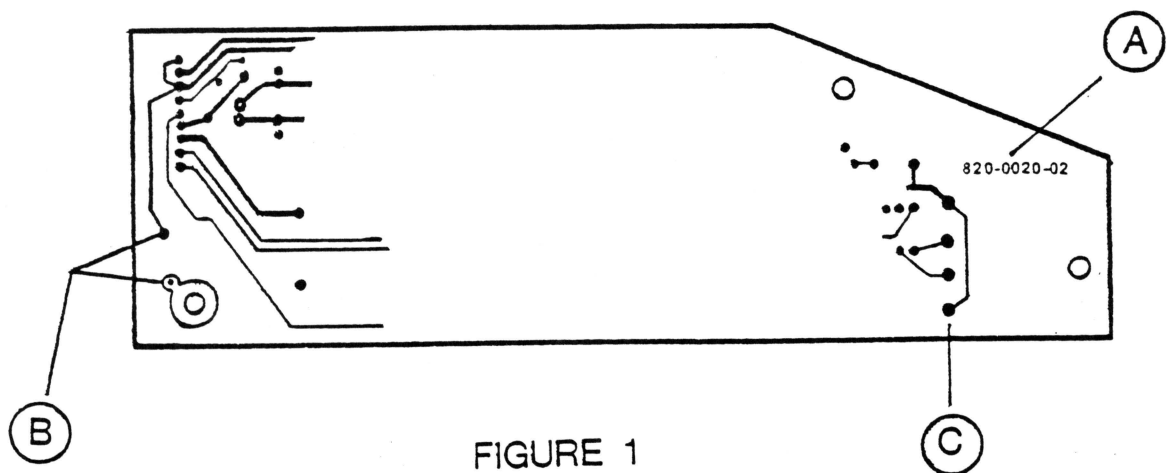

FIGURE 1
1. Find the two solder pads on the deserializer card (Figure 1, B). If the holes are filled with solder, open them using a soldering iron and solder sucker.
5. Install the deserializer card in the printer as usual. Note that the left margin switch wire from the chassis should connect to post J5 on the card and that J6 (Figure 1, C) will not be used.